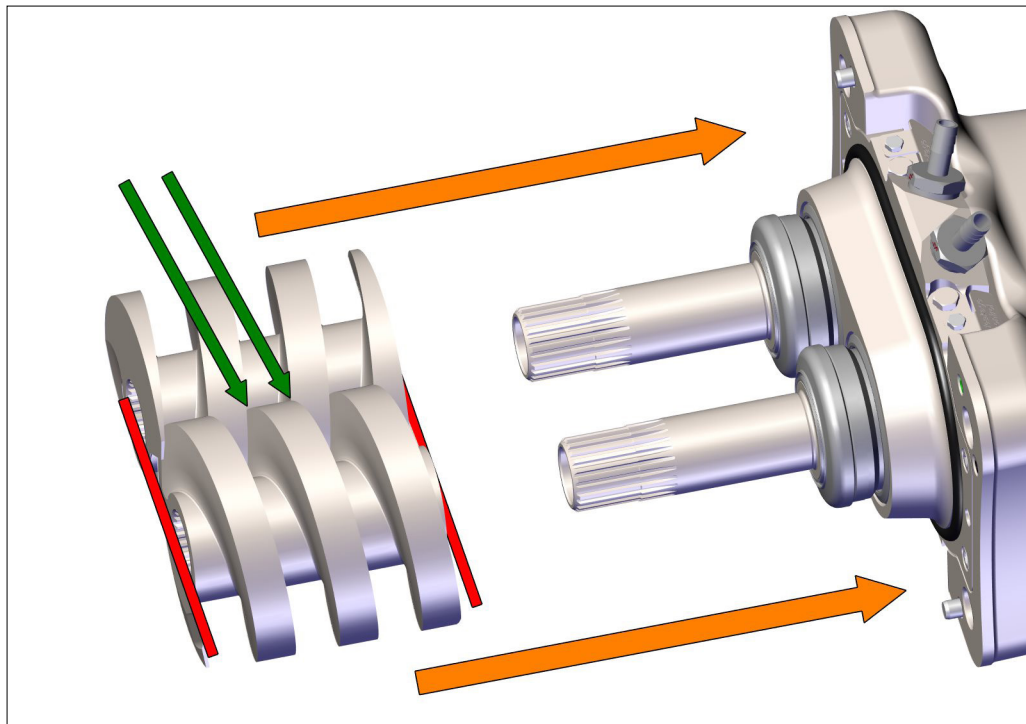

Fig. 12: Sliding on the screw spindles in pairs
- Arrange interlocking screw spindles in pairs so that they lie on one level (red markings, see Fig. 12).
- Push both screw spindles together onto the input and output shafts (blue arrows, see Fig. 12) - Pay attention to the arrangement of the screw spindles - see chapter "4. Directional flow of the medium".